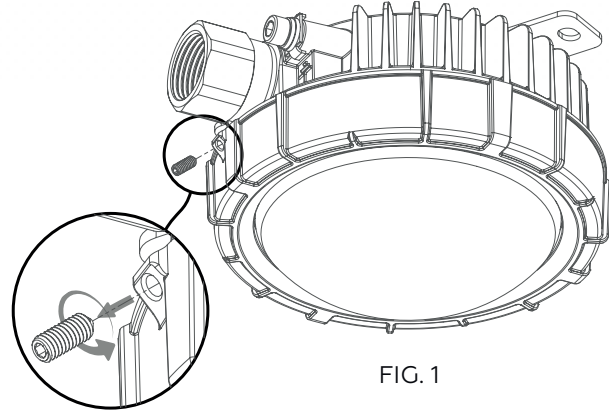

FIG. 1
1. Unscrew set screw (1) (see Fig. 1) then turn the Plafond face down and unscrew its lid- diffuser sandwich, carefully remove it from Plafond's enclosure, and place on prepared clean surface.